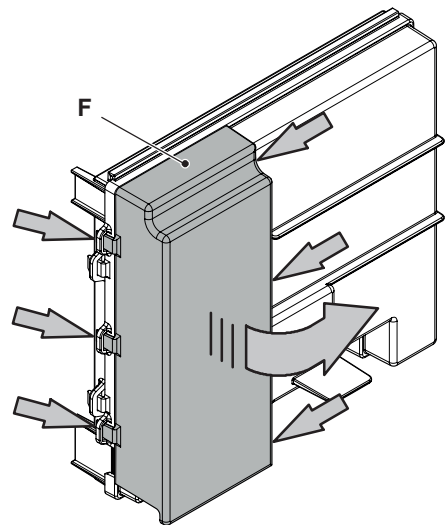

Figure 2.7
- 2 To remove the terminal block lid "F" (Figure 2.7), free the front hooks.
- 6 Remove the terminal block lid "F" (Figure 2.7).